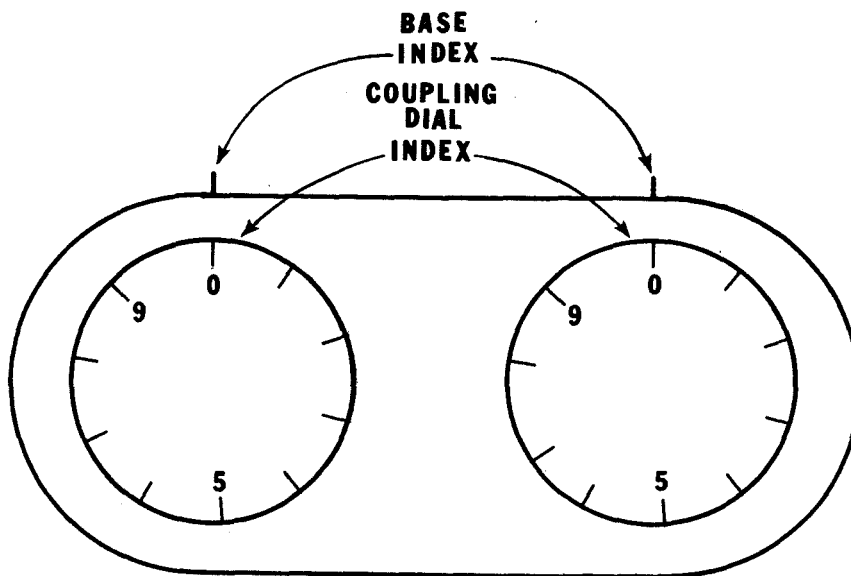

Figure 2
- (1) RF Amplifier 1A2A4 and Translator/Synthesizer 1A2A6 are mechanically coupled to the front panel KCS controls. These controls should be positioned to the "0" digit position prior to removal of the module. Replacement modules are also positioned on "0" at the repair depot to facilitate ease of assembly. This position may be verified by checking the bottom to the module and verifying the "0" marks on the couplings are aligned with the index marks on the module case (base). See Figure 2.